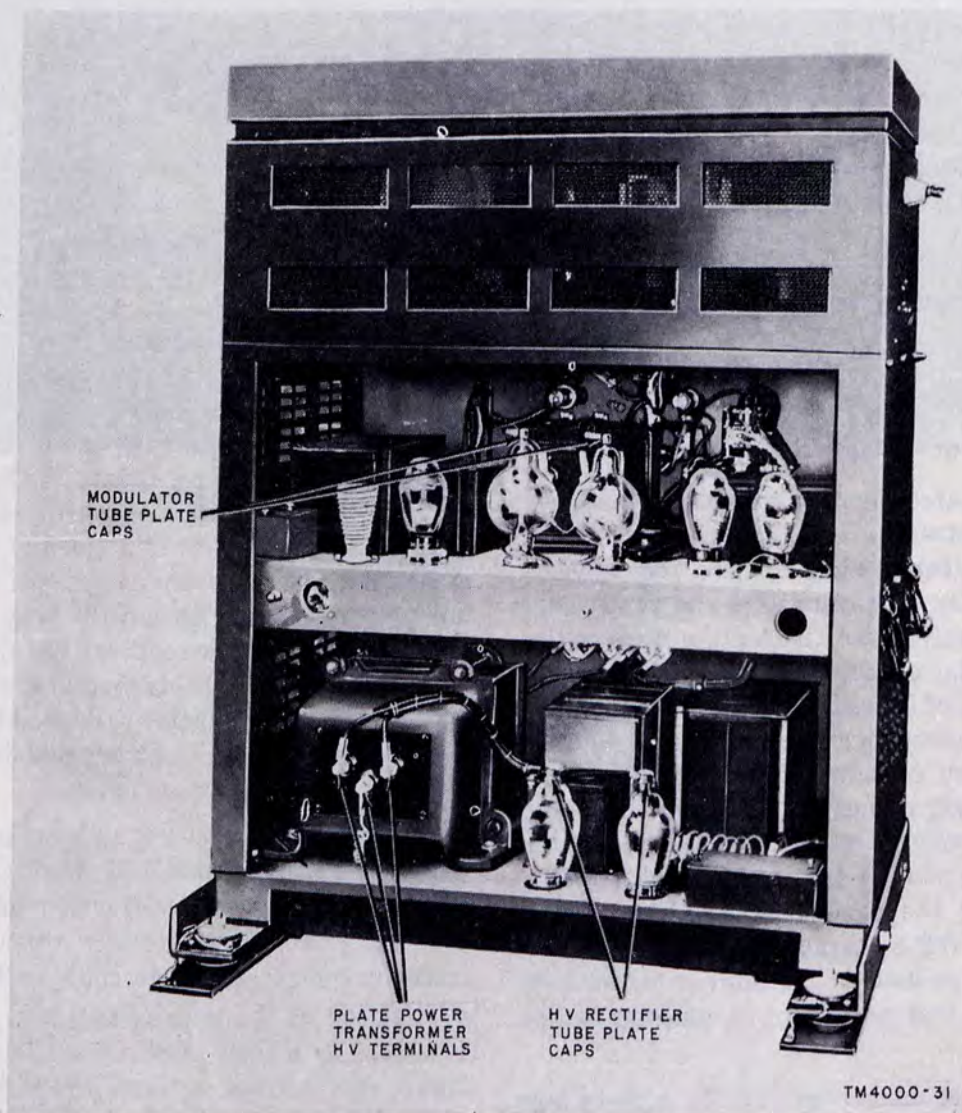

Figure 2. Transmitter, showing high-voltage danger points.
a. In a transmitter (fig. 2), the power supply chassis has terminals that are at a very high potential.
d. The modulator section also has high dc voltage points exposed; the danger points are shown in figure 2.